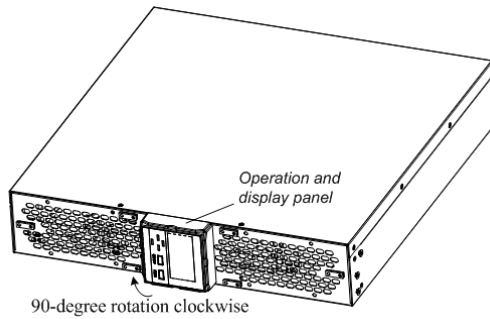

Fig.4-4 Rotating the operation and display panel
2. Pull the operation and display panel gently, rotate it 90 degrees clockwise and snap it back into position, as shown in Fig.4-4